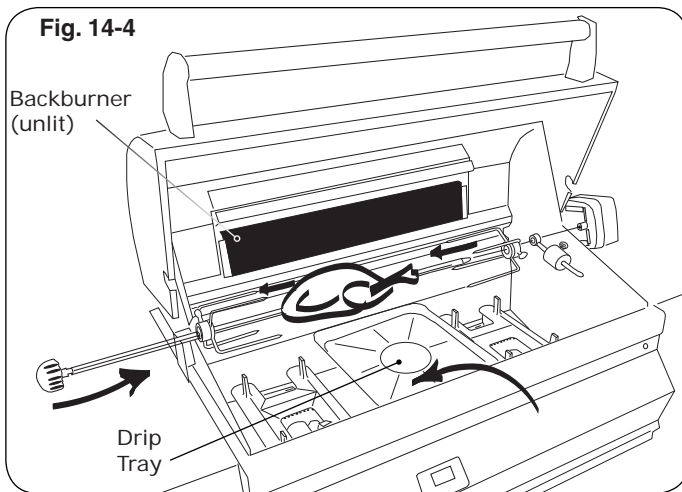

Fig. 14-4
4. Slide left meat holder into position on rod as shown in Fig. 14-4 and tighten screw.
5. Slide meat onto rod and into holder (Figs. 14-4, 14-7).
6. Slide right meat holder onto rod and into meat (Fig. 14-4). Tighten thumb screw.